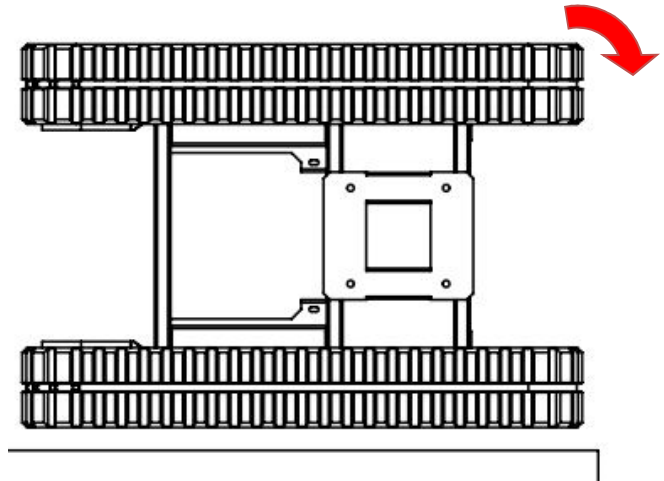

Fig. 7.5-9 - Example of a change of direction that may result in the crawler coming out from its seat when it cannot move sideways
- When changing direction in a condition where the crawler cannot move sideways, due to an obstacle it is passing over, the crawler could be damaged and escape its seat (Fig. 7.5-9).